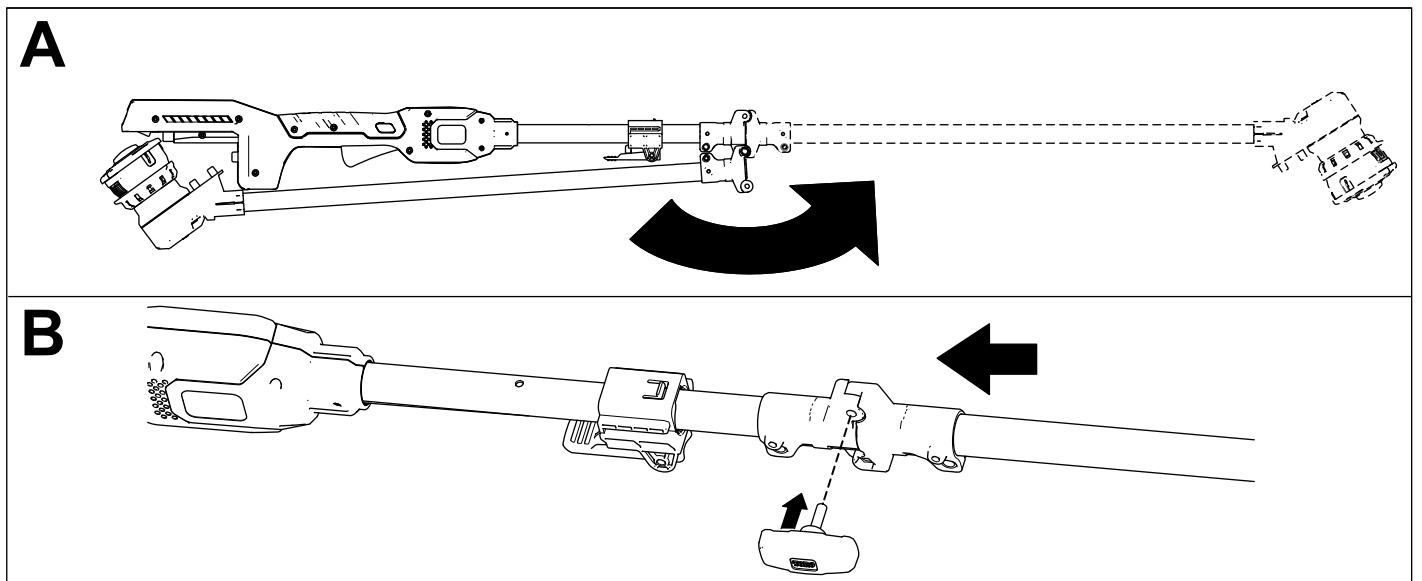

Figure 3
1. Unfold the handle (A of Figure 3).
2. Install the connector knob to secure the handle (B of Figure 3).